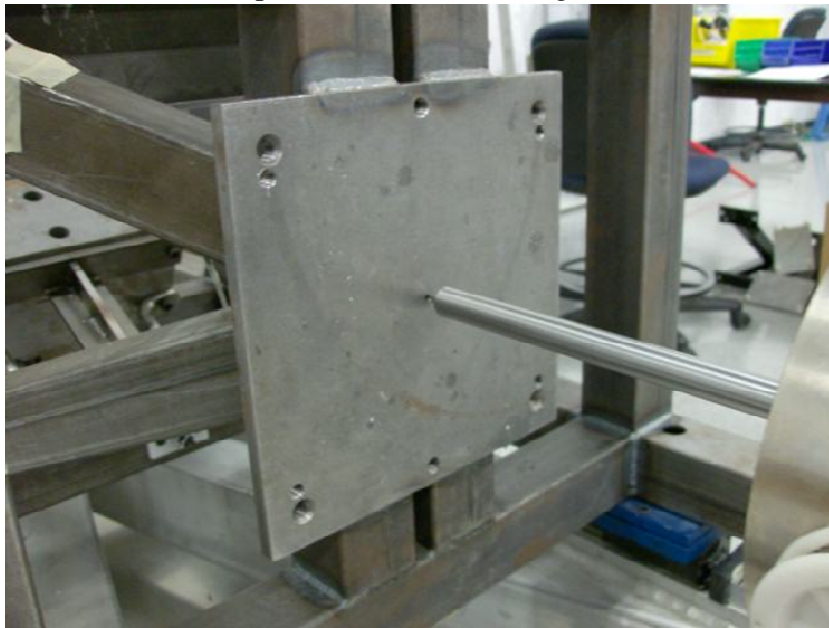

Figure 1 - Impact Probe Alignment
- With the impact probe free hanging, align the probe centerline to the alignment hole on the face of the impact sled as shown in Figure 1.